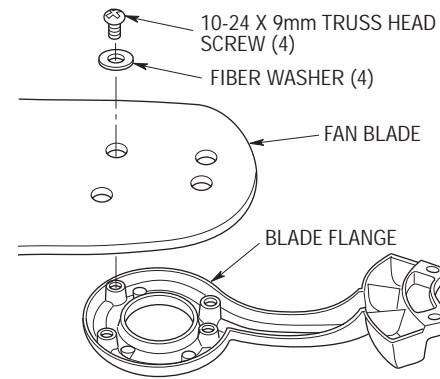

Figure 6
- 7. Mount the fan blades to the blade flanges using four 10-24 x 9mm truss head screws and four fiber washers (supplied) (Figure 6).